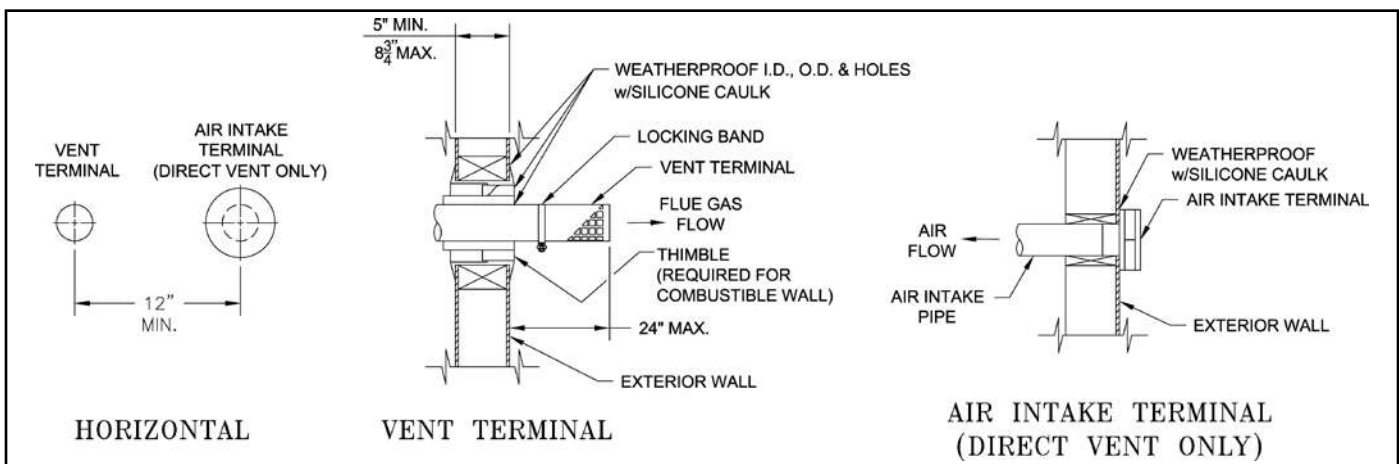

Figure B-4: Separate Horizontal Air Intake Terminal Installation
2. Where the vent pipe penetrates any combustible wall (Figure B-4):
3. Maintain 12" separation between vent and intake terminals. Where the intake air pipe penetrates the external wall, seal the opening with weatherproof sealant (Figure B-4).